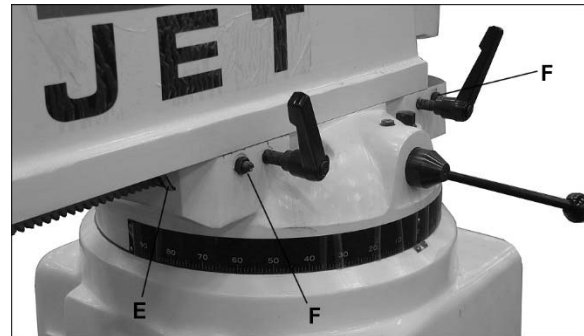

Figure 17: Ram gib location
Adjust one gib (E, Figure 17) using the two set screws (F). Tighten the nuts on the set screws after adjusting.